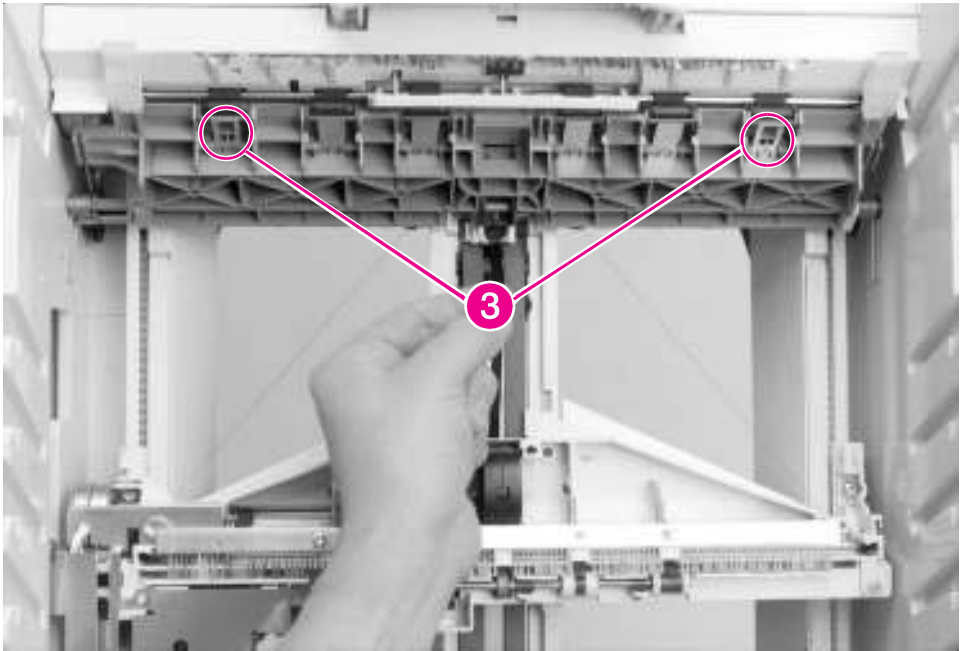

Figure 6-166 8-bin Mailbox Anticurl Strings (2 of 2)
- 5 Release the upper ends of the Anticurl Strings from the Jam Access Door by pushing the retaining tabs that secure the strings to the Jam Access Door (Figure 6-166, callout 3).